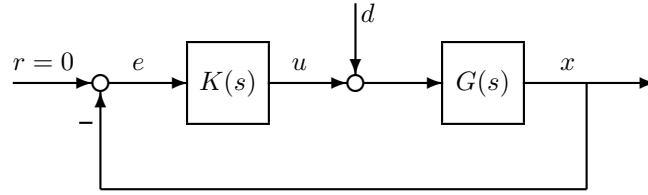

Figure 3: Impeller Control System
The model parameters are for an experimental testbed to study the axial control of levitated impellers. The model is a linearization of a nonlinear model as described in Reference (2). Notice that the dynamics are unstable in the axial direction. The feedback system to stabilize the impeller is shown in Figure 3. The reference command is set to $r = 0$ and the remainder of the problem will focus on the axial disturbance d .
- (a) It is important to design a controller that minimizes power consumption. This leads to the following design constraint: If $d(t) = 1$ (V) for all $t \geq 0$ then the steady state control input should satisfy $|u_{ss}| \leq b$. Convert this into a design specification on one of the closed-loop transfer functions. Next, translate this into a design specification on the loop transfer function $L(s) = G(s)K(s)$.